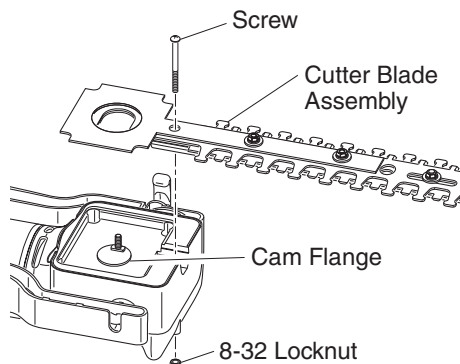

Figure 20 - Removing Cutter Blade Assembly
5. Remove screw that holds down cutter blade assembly (see Figure 20). **IMPORTANT:** Be sure not to loose the 8-32 locknut that secures this screw.